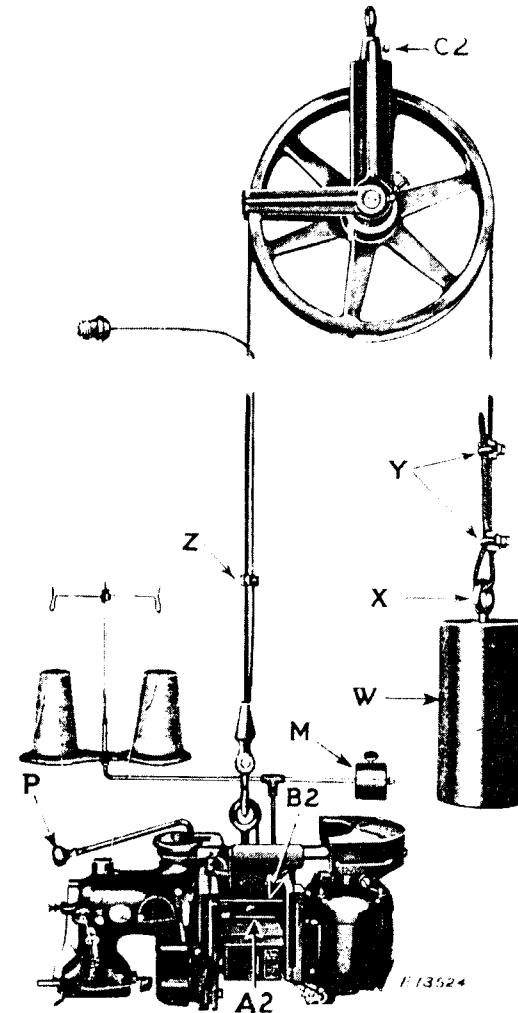

Fig. 4. Machine 146-30
Figure 4 shows the sewing unit supported and ready for operation. Place the machine and motor assembly on a box at about the average height of the bags to be sewn. Slip the cable hook into the large eyelet of the machine bracket as shown, and pass the cable over the sheave and through the eyelet (X) in the counterweight (W). This weight should be slightly above the level of the machine when the machine is at the desired height. Bind the end of the cable with the two clamps (Y), securely tightening both the clamp nuts and the lock nuts. The clamp (Z) holds the motor lead from the switch to the outlet socket.
CAUTION. It is important that the set screw (C2, Fig. 4) in the sheave hanger should be tightened against one of the flats on the shank of the eye bolt so that the hanger cannot turn on the eye bolt.
Ten pounds of buckshot is furnished with the outfit for final balancing of the machine. Add buckshot to the counterweight until it just balances the sewing unit. The machine should now move freely up and down and if the hanger is properly fastened, the counterweight will not sway when the machine is moved from side to side. When new thread cones are placed on the machine, a little more buckshot should be added to the counterweight, and the equalizer (M, Fig. 4) should be moved to the right. As the thread is used, this equalizer should be moved to the left from time to time to maintain a perfect, horizontal balance of the unit.
The motor is started by moving the switch on the machine bracket to the "ON" position. When the bag to be closed is brought into position under the machine head, grasp the control handle (B2, Fig. 4) with the right hand, the fingers wrapped around the belt shifter lever (A2), and swing the machine to the edge of the bag away from you, holding the top of the bag with the left hand, ready to be fed under the presser foot. The machine is started by drawing up the belt shifter lever (A2, Fig. 4) with the fingers of the right hand, which shifts the belt from the loose pulley to the balance wheel of the machine.
unit toward you, press the chain cutting lever (P, Fig. 4) to the right or toward the machine to cut the chain of thread between the bag and the heel of the presser foot.